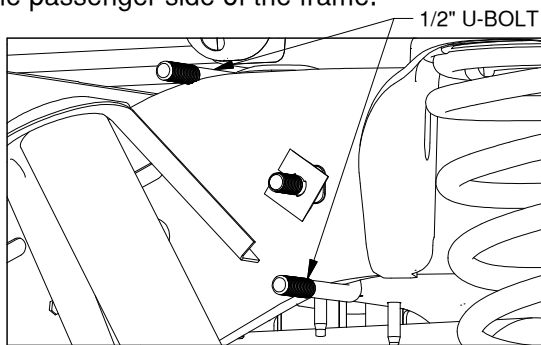
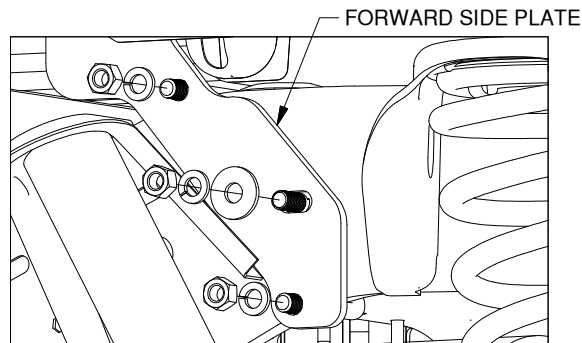

FIGURE F5: View looking into driver side wheel well.
FIGURE F6: View looking into driver side wheel well.
3. Install the front side plates. Locate the 1/2" U-bolt. On the driver side of the frame, near the rectangle hole where the carriage bolt is installed, pass the U-bolt up in between the fuel tank and the frame so that the threaded ends of the U-bolt are towards the rear of the truck. Make sure there are no brake lines, wiring, or tubing between the U-bolt and the frame. When the leg of the U-bolt is past the top of the frame rotate the legs of the U-bolt towards the outside of the frame, as shown in Figure F5. Locate the driver side front side plate. Orient the side plate so the flange is up and towards the truck. Angle the flange between the frame and the bed. Align the side plate so that the U-bolt and the 1/2" carriage bolt in the frame pass through the holes in the side plate. Attach the side plate to the frame with 1/2" flat washers, lock washers, and nuts, as shown in Figure F6. Align the side plate so the slot in the flange is centered front to back in the 9/16" hole in the bed. While pushing the side plate up against the bottom of the truck bed, hand tighten the three nuts. Repeat steps for the passenger side of the frame.